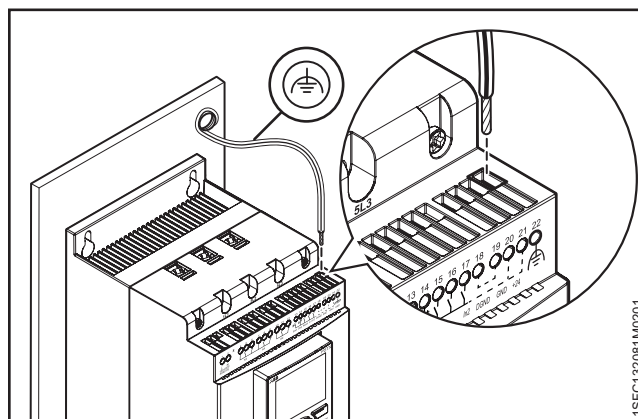

Figure 2.4
- Connect the functional ground (terminal 22), to a ground point close to the Softstarter, see **Figure 2.4**.